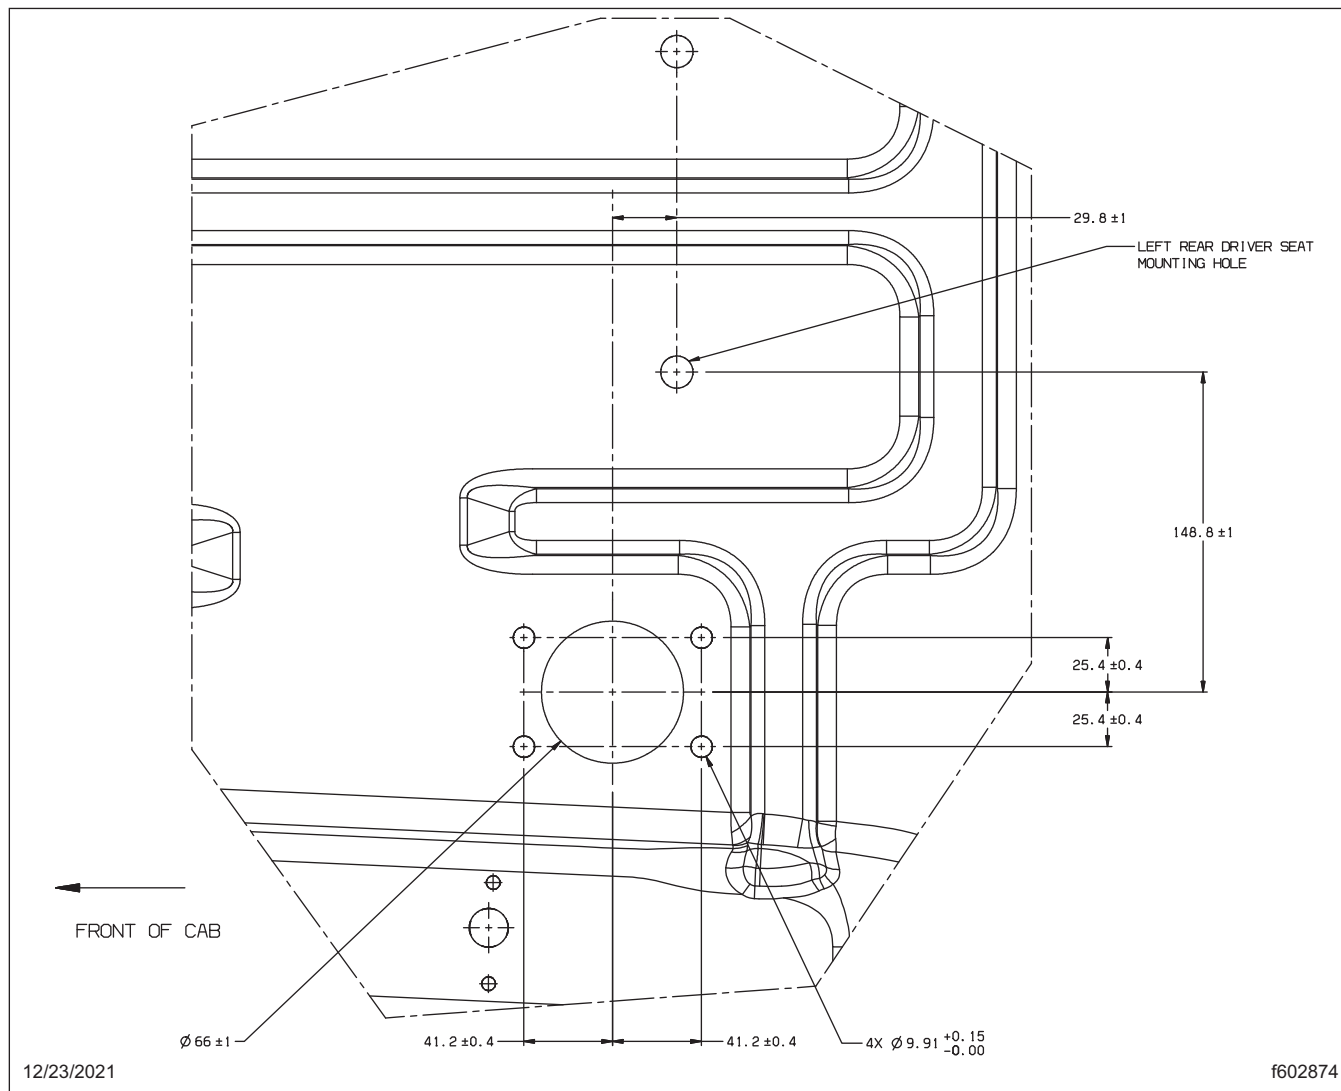

Fig. 20, Switch Drilling Diagram
3. Drill holes for the battery load disconnect switch. See Fig. 20 and Fig. 21.
- 3.3 Use a 25/64-inch drill bit to drill the mounting fastener holes. See **Fig. 20**.